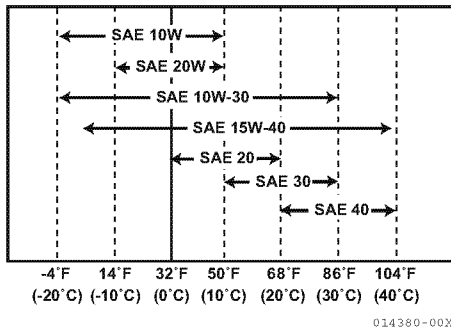

Figure 4-5
- Select the oil viscosity based on the ambient temperature where the engine is being operated. See the SAE Service Grade Viscosity Chart (Figure 4-5).
Select the appropriate engine oil viscosity based on the ambient temperature and use the SAE Service Grade Viscosity Chart (Figure 4-5).